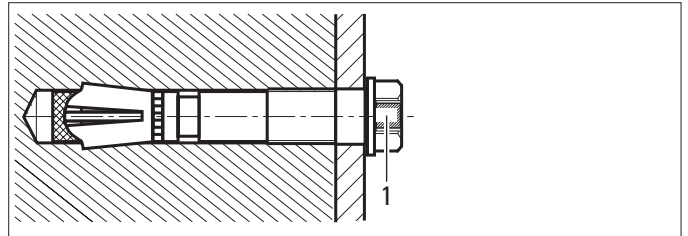

Fig. 4
- ⇒ Consult the HILTI representative if the green seal (1) of the anchor bolt is damaged (Fig. 4).